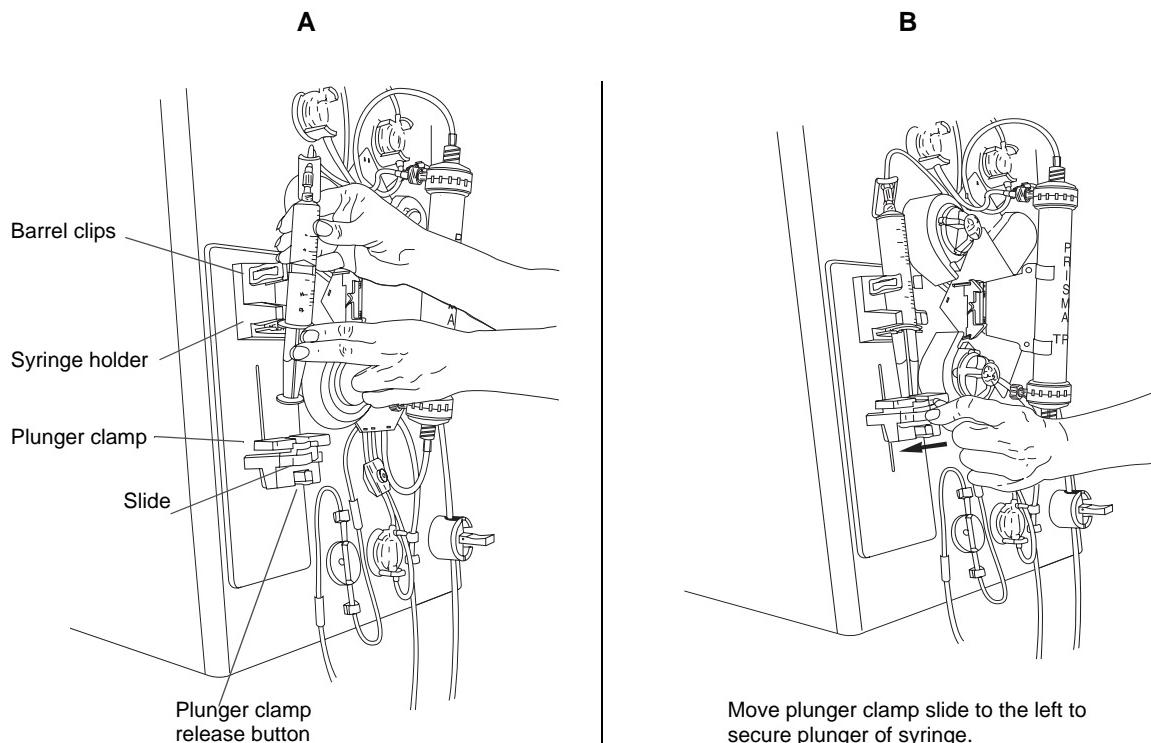

Figure 16. Installing Anticoagulant Syringe with the PRISMA TPE Set
(See Figure 16)
4. Install the full syringe, following Steps 5 through 7 under “Initial Syringe Installation.” See Figure 16.